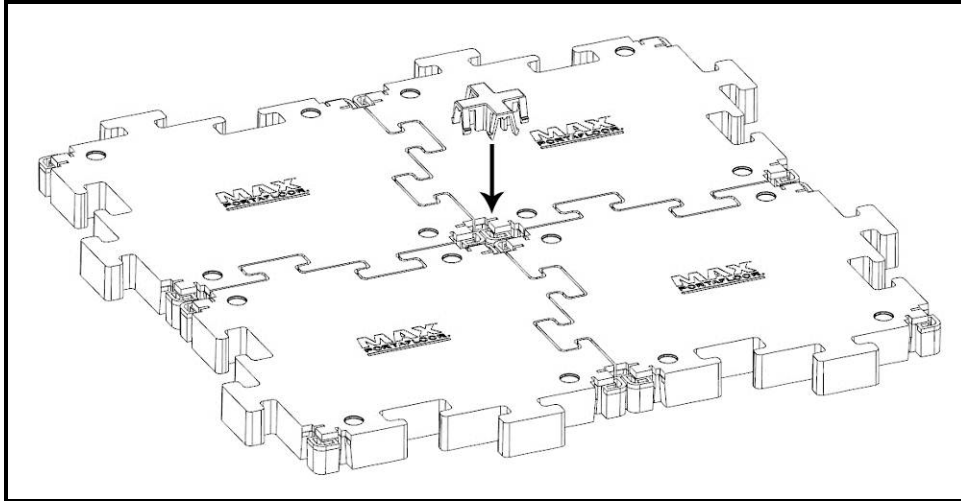

Figure 4
7. (Optional) Install the QuickLocks along each intersecting edge where MAX Mats come together (see Figure 4). *Hint: On a well prepared, flat, firm subsurface, SuperLocks may not be needed for your application. Please consult your PortaFloor representative for a recommendation.*